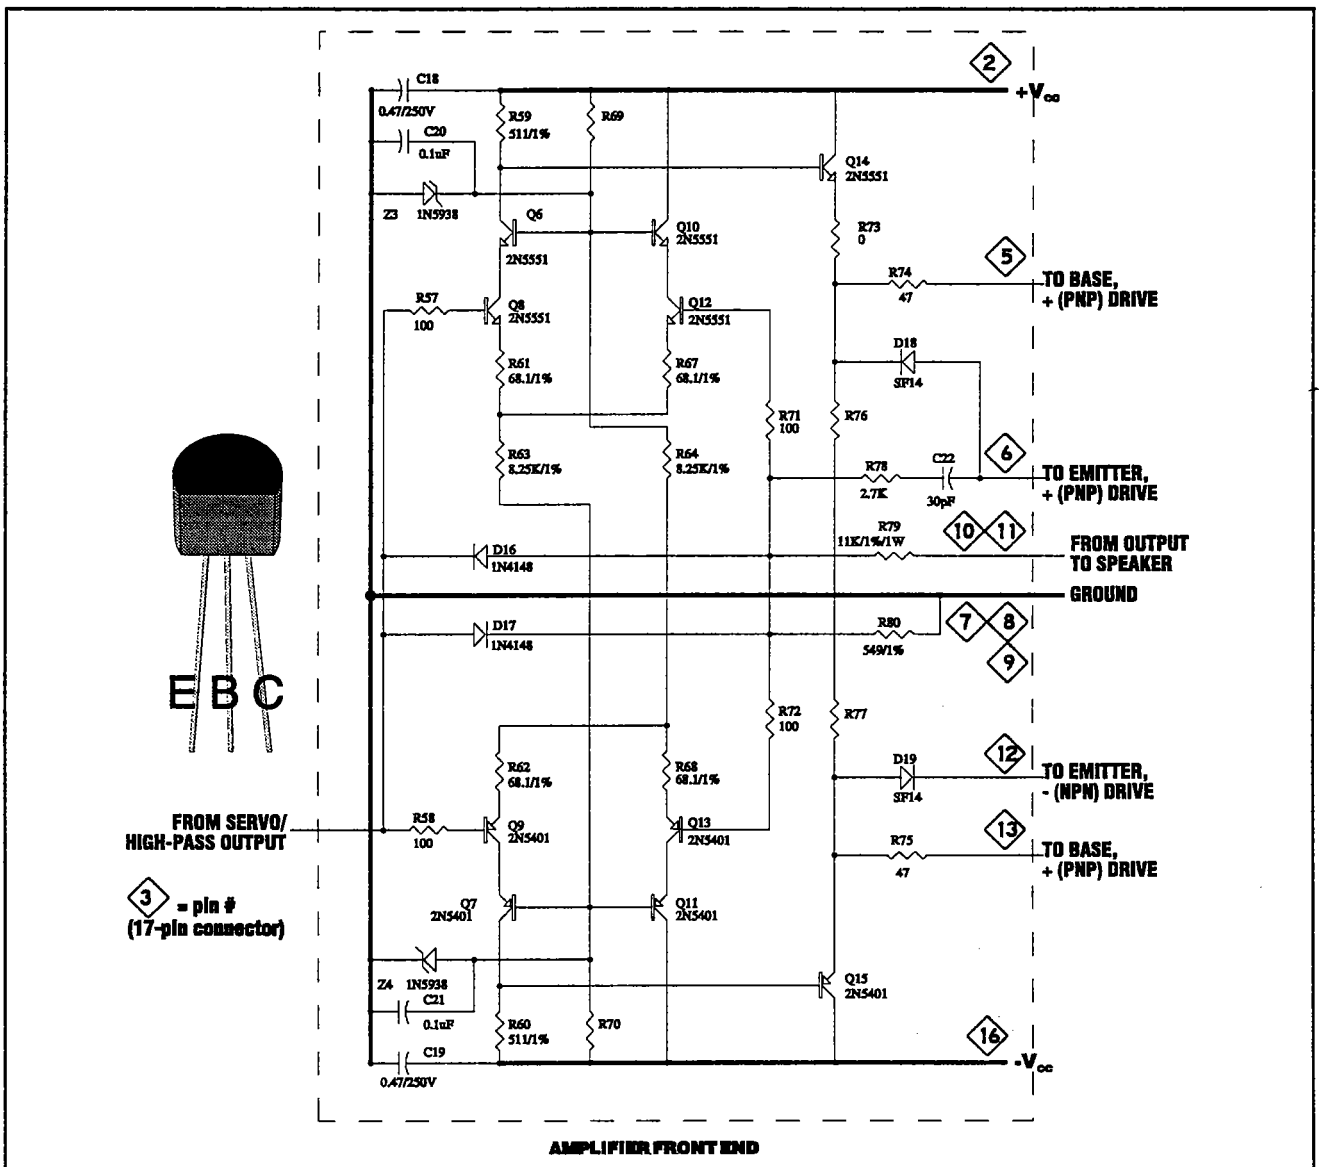

Figure 5-3
- 4 First check the transistor circuitry in the amplifier front end section of the preamp board circuitry (see Figure 5-3). This section provides the signal drives for the heatsink board.